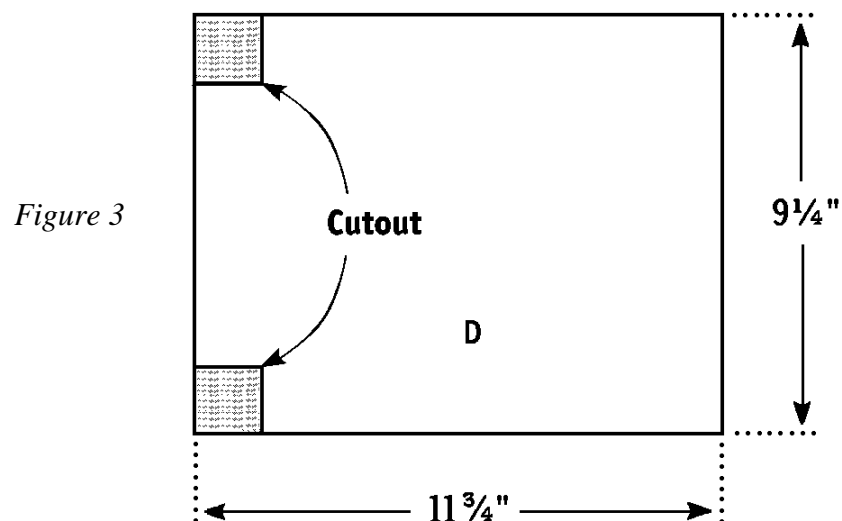

Figure 3
1. Cut two Inner Verticals (C) from 1 x 10 pine, each measuring 14 inches.
2. Cut two Shelves (D) from 1 x 10 pine, each measuring 11-3/4 inches.
3. Cut four Shelf Supports (E) from 2 x 2 pine, each measuring 14 inches.
4. An optional step at this point is to cut two 1/8 x 1/8" grooves on all four sides of each Shelf Support (E).
5. Place one Shelf (D) on a flat surface. Refer to *Figure 3* to mark the cutout to accommodate a Shelf Support (E) in the two outer corners of the Shelf (D). Place the end of one Shelf Support (E) exactly in place, and trace around it. Remove the Shelf Support (E), and cut out each of the two corners, which you marked in the Shelf (D).